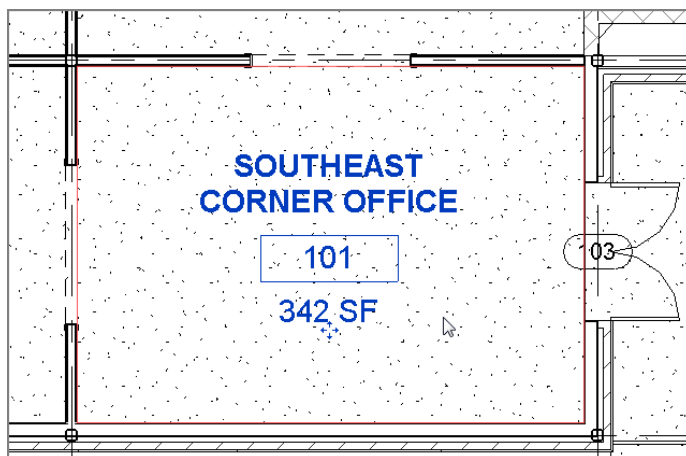

FIGURE 15.11: Change the type to Room Tag With Area.
3. In the Type Selector, select Room Tag With Area. The tag displays the area, as shown in Figure 15.11.